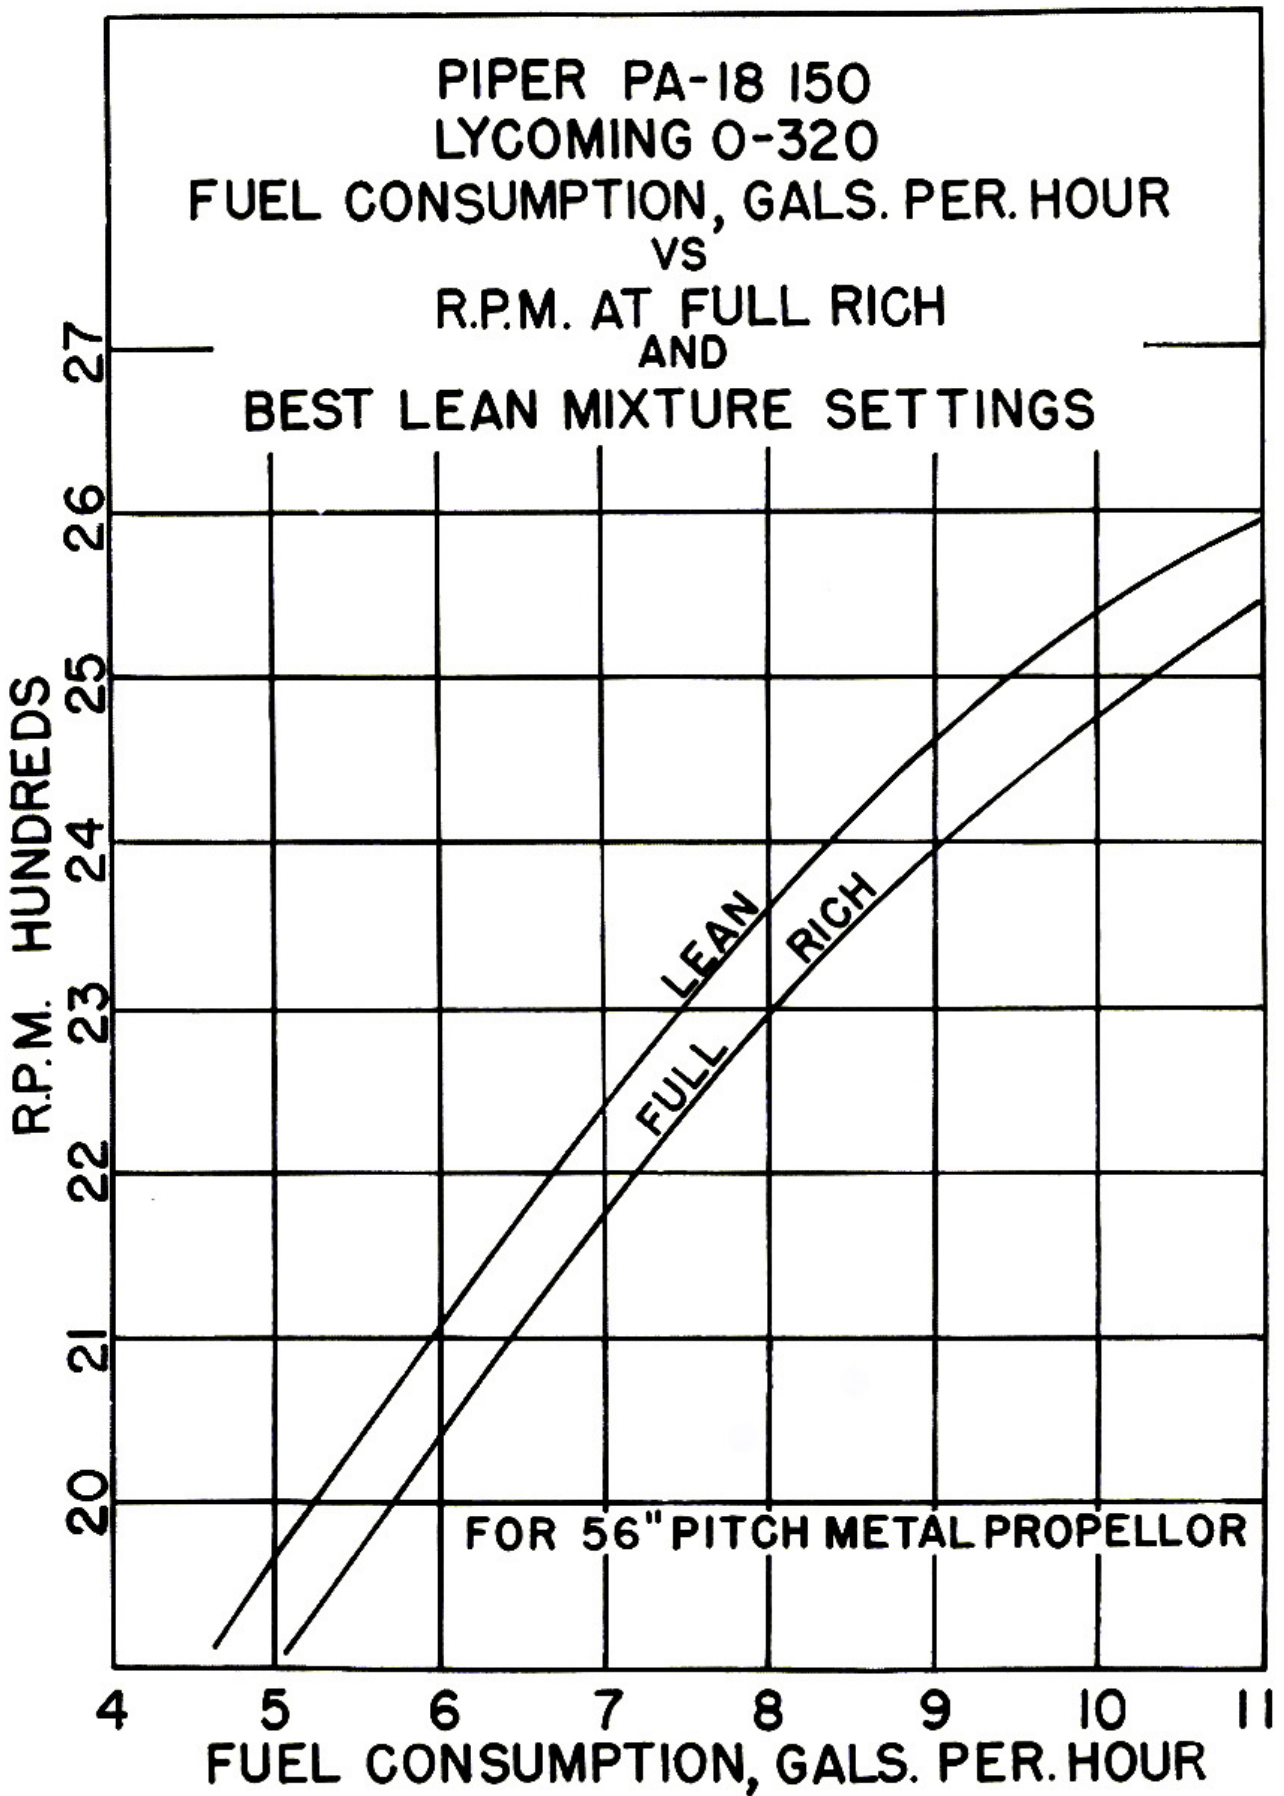

Figure 8
2. Reduce the maximum R. P. M. by 10% and cruise at 90% of full R. P. M. The correct cruising R. P. M. will result in a cruising airspeed of 100 M. P. H. with a fuel consumption of approximately 5 gallons per hour at full rich mixture on the "95", and an airspeed of 110 M. P. H. with a fuel consumption of approximately 9 gallons per hour on the "150". If the "150" is slowed down to the same cruising speed as the "95" or about 100 M. P. H., approximately the same amount of fuel, about 5 gallons per hour, will be used. (See fuel consumption chart, figure 8)